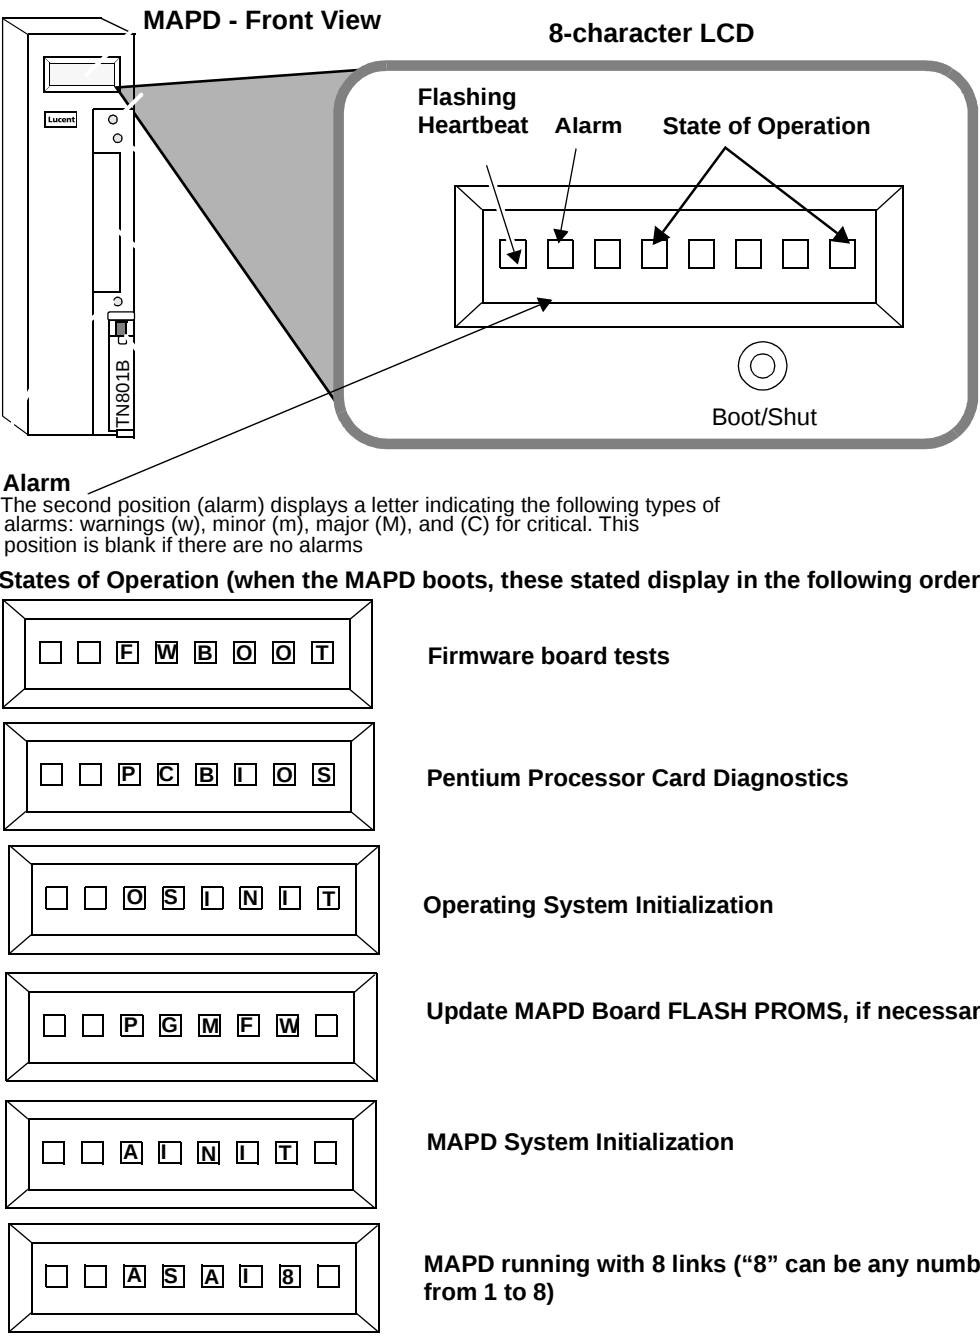

Figure 2-7. MAPD System LCD Display
6. As the MAPD system comes up, watch the Liquid Crystal Display on the faceplate (see Figure 2-7). The LCD identifies the MAPD states and alarms. When the MAPD system is coming up, the LCD should display the following states (in order):
7. As the MAPD system comes up, watch the Liquid Crystal Display (LCD) on the faceplate (see Figure 2-7). The LCD identifies the MAPD states and alarms. When the MAPD system is coming up, the LCD should display the following states (in order):